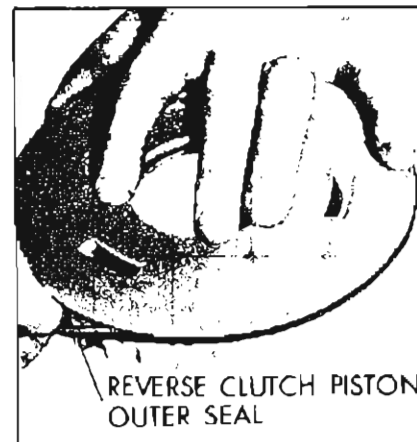

Figure 5-285
1. Lubricate with transmission oil and install reverse clutch piston outer seal. See Figure 5-285.